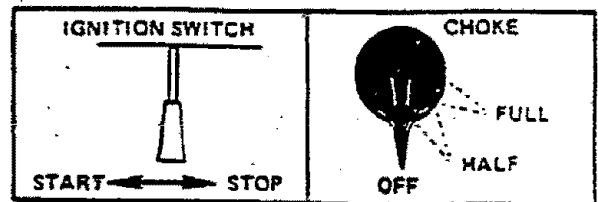

Figure 15
- b. Move ignition switch to "Start" position. Figure 15.
1. Stop engine by moving the ignition switch to the "Stop" position. Figure 15.
- 1.) Leave choke at the off position. Figure 15.
- 1.) Pull choke to full choke position. Figure 15.
- 3.) Push choke to the off position. Figure 15.
- 3.) Push choke until half position is felt. Figure 15.